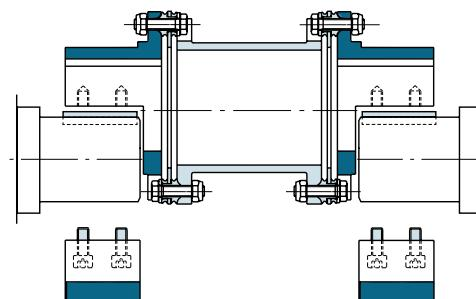

Fig. 101
- Place the coupling from above onto the shafts and partly assemble with the split shells (Fig. 101).